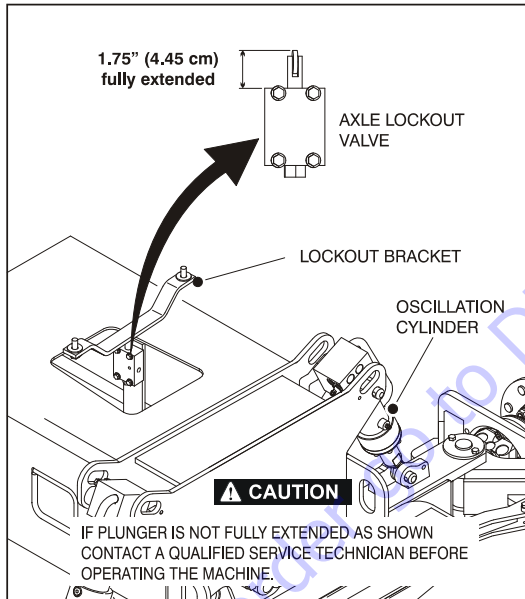

Figure 2-7. Daily Walk-Around Inspection - Sheet 4 of 4
4. **“Walk-Around” Inspection** – Refer to Figure 2-4., Figure 2-5., and Figure 2-7.